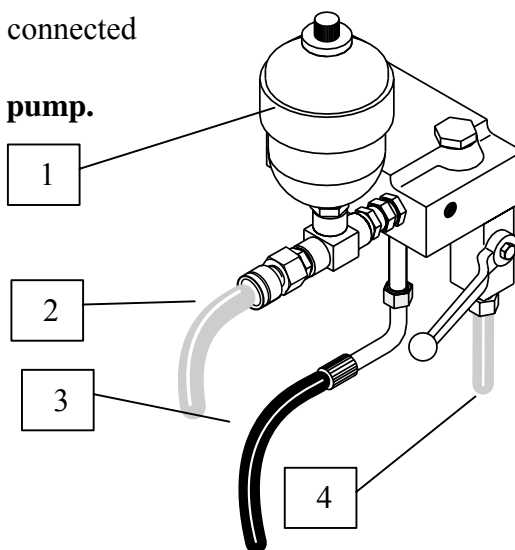

Fig.21
3) Check to make sure that all of the pipes are connected correctly (fig. 21)
4) **NEVER** remove the hydrostatic compensator and the product pipes while the machine is in operation (fig. 21).